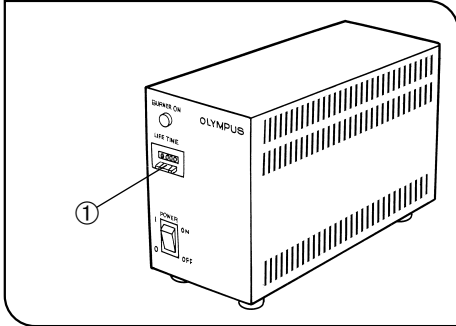
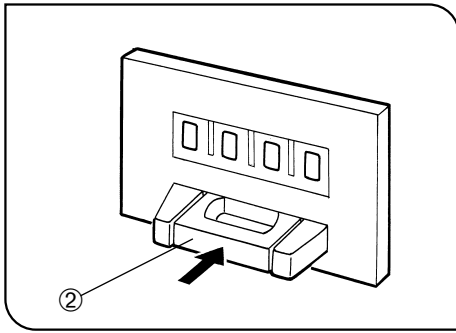

Fig. 9
Fig. 10
1. Press the center of the reset button ② (Fig. 10) on the power supply unit's front panel ① (Fig. 9) to reset the burner life indicator to 000.0.